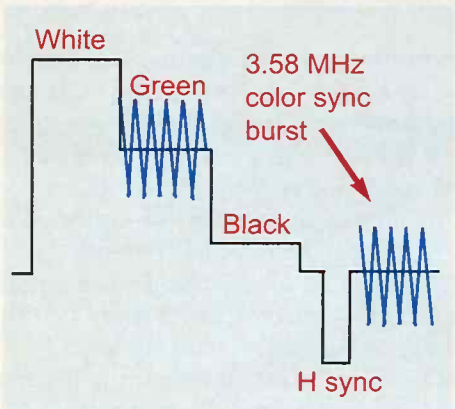

Fig. 11: Burst is a sample of the 3.58 MHz reference signal inserted just after each horizontal sync pulse.
**Burst:** NTSC standard color receivers require a sample of the camera's 3.58 MHz chroma reference signal in order to properly display the camera's chroma output signal. The camera inserts a sample of its 3.58 MHz reference signal during horizontal blanking time, just after each horizontal sync pulse (Fig. 11). This short sample of the camera's reference signal is called chroma burst.